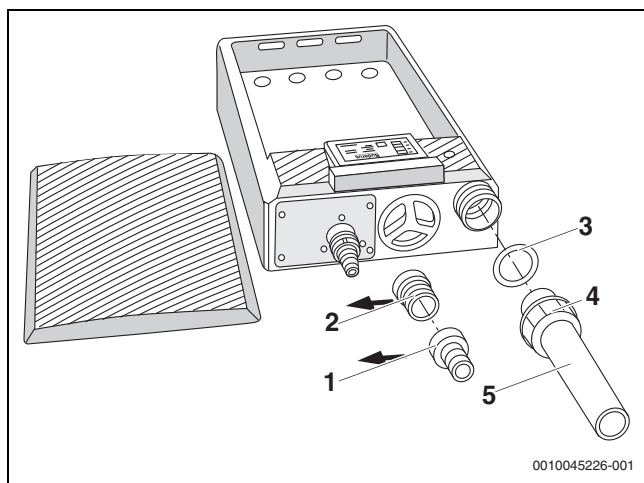

Fig. 3 Replacing the PVC pipe
With a boiler condensate outlet of $\varnothing 40$ mm, the inlet connection piece on the neutralisation unit (EKO) must be replaced by the PVC pipe (→ figure 3).
- ▶ Unscrew the union nut, remove the hose connector (→ Figure 3, [1]) and adaptor (→ Figure 3, [2]).
- ▶ Screw in the PVC pipe (→ Figure 3, [5]) with gasket (→ Figure 3, [3]) and union nut (→ Figure 3, [4]).